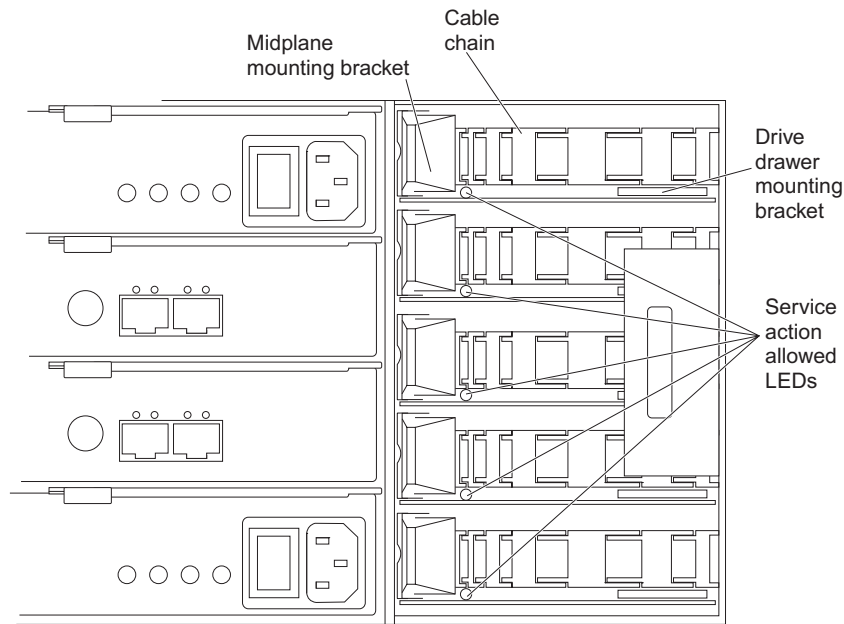

Figure 87. Rear view of the storage expansion enclosure with the right fan assembly removed
- a. At the rear of the drive enclosure, remove the right fan assembly. See "Replacing a fan assembly" on page 134 for the steps to remove a fan assembly. Figure 87 on page 137 shows the area with the fan assembly removed.